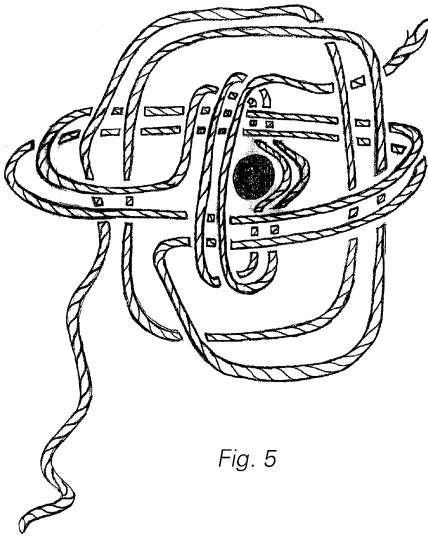

Fig. 5
In the book *Apontamentos Do 1 E 2 Grau Do Curso de Marinharia de Manobra* (1952, 1960 1968) of the school at the ship Navio Escola Sagres from the Portuguese Admiralty Navy, we find the final or classic description of the monkey's fist. Nevertheless, I call it 'Pinha de Retenida do Navid Escola Sagres' (Fig 5) just for the sake of historical documentation.
- Now gently tug one wend and the diagonally opposite standing part - which are, in fact, bits of the same strand. Repeat with each strand in turn until the knot is firm and tight (fig. 5).